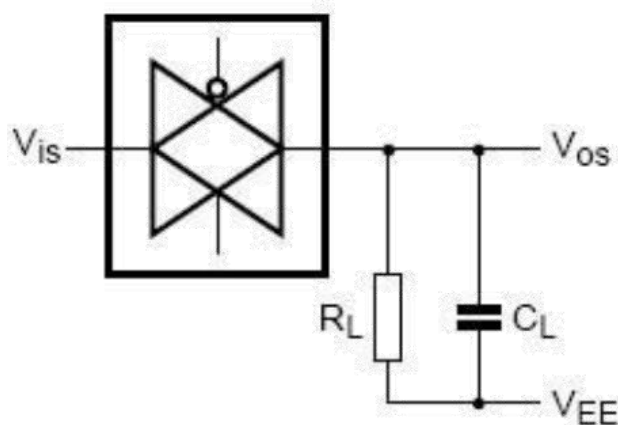

Figure 6. Square wave distortion degree of cut-off frequency and conduction frequency test pattern
- (3) $R_L=1\text{k}\Omega$; $C_L=5\text{pF}$, channel off, $20\log V_{os}/V_{is}=-50\text{dB}$, see Figure 6.
- (4) $R_L=1\text{k}\Omega$; $C_L=5\text{pF}$, channel on, $20\log V_{os}/V_{is}=-3\text{dB}$, see Figure 6.